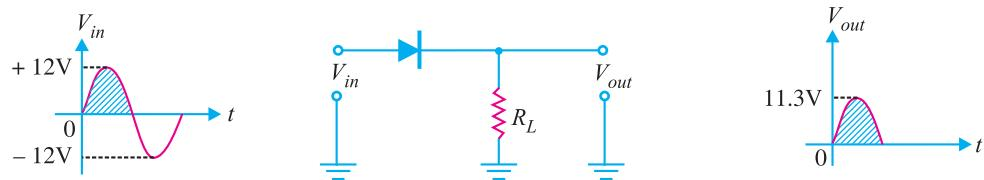

Fig. 18.28
**Example 18.7.** For the negative series clipper shown in Fig. 18.28, what is the peak output voltage from the circuit?